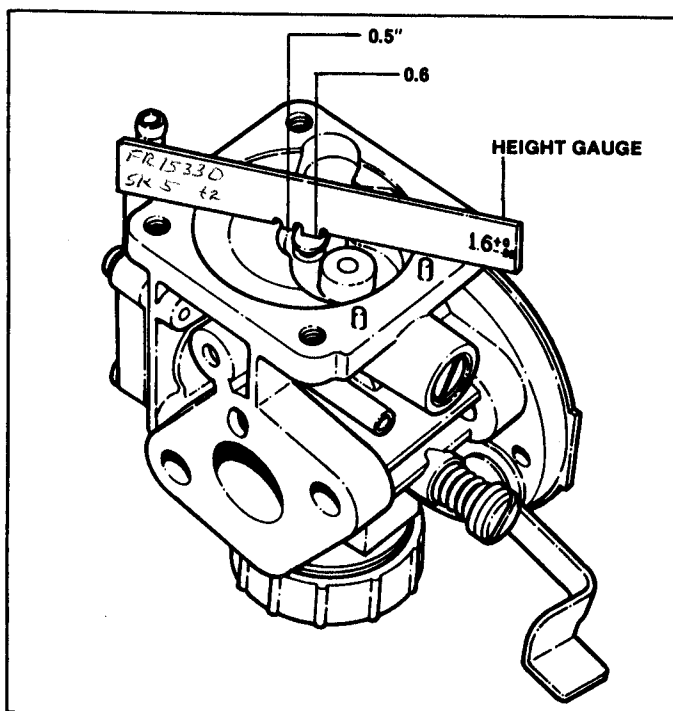

FIGURE 3.9
- (a) Adjust the float arm height to within 0.5" - 0.6" of the body. See Figure 3.9.